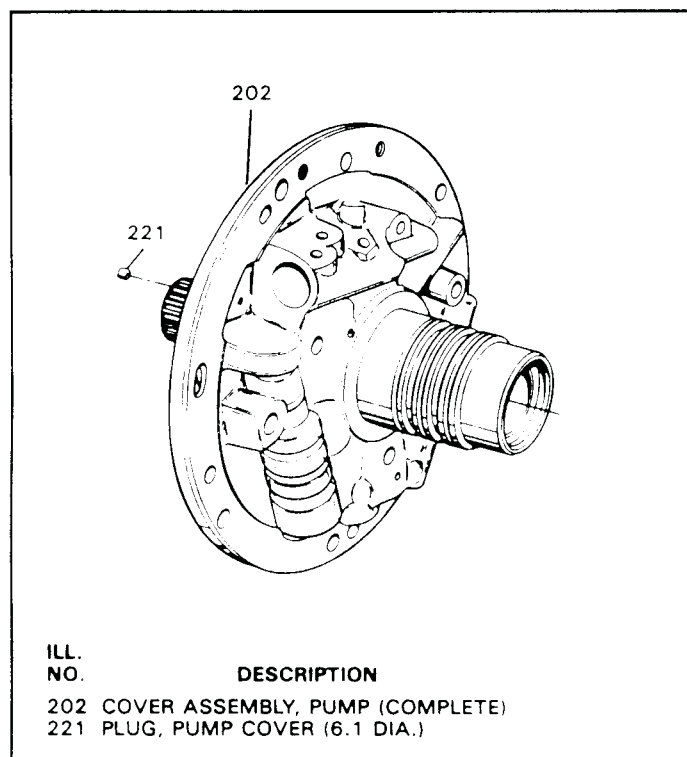

Figure 99
10. Insure that orifice cup plug (221) is in place in the pump cover, as shown in Figure 99.